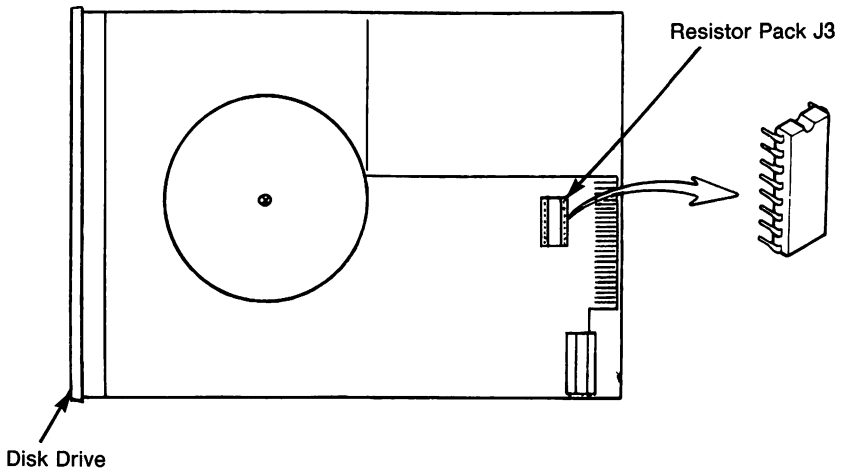

Figure 4-20 Moving "J3" From Outboard to Inboard Drives
3. Refer to Figure 4-20. With the removed, outboard disk drive laying on its side, outboard side up, locate the resistor pack "J3", which is positioned just to the left (forward) of the edge connector. Carefully, with fingertips, remove the 14 pin pack by pulling steadily, straight up until it is free of its receptacle.
4. This pack (J3) must now be inserted into the same receptacle position on the now exposed "inboard" (A) disk drive. Carefully insert it into the "J3" receptacle on the "inboard" drive, maintaining the same orientation it had in the now removed "outboard" (B) drive. Be sure the pack (J3) is seated squarely and completely in the receptacle for "J3" on the inboard (A) drive.